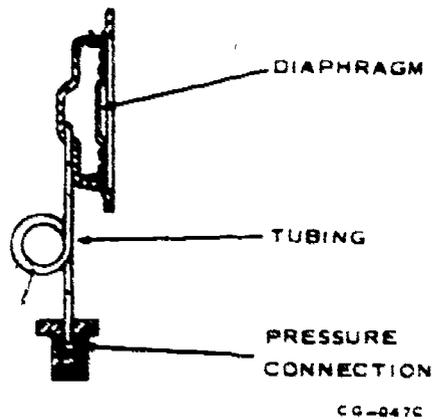

Figure 27. Pressure Element
**Pressure Elements.** Pressure elements are used to sense pressure. One type is shown in figure 27. As pressure increases the diaphragm expands covering the leakport, increasing control pressure. As pressure decreases the diaphragm contracts opening the leakport, decreasing control pressure.